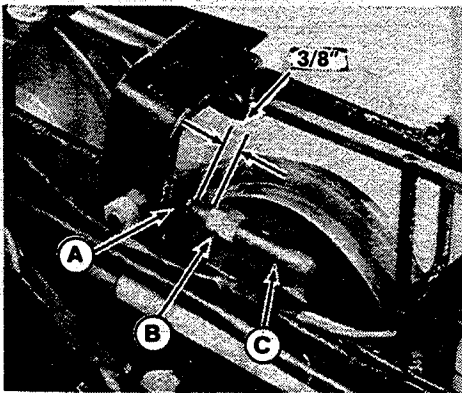

Figure 35. Clutch Rod Clearance Adjustment
- Pull back firmly on the clutch rod (C, figure 35). There should be a $3/8$ inch (9.5 mm) gap between the clutch rod guide (A) and the clutch rod adjusting nut (B).